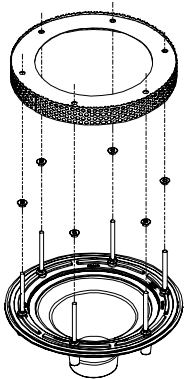

Fig. 3
5. Place a second set of jam nuts on each of the threaded rods, making sure that the nuts are oriented with flats facing upwards (Fig. 3). These nuts will support the top flange of the extension. Thread the nuts down below the height of where the extension flange will be located.